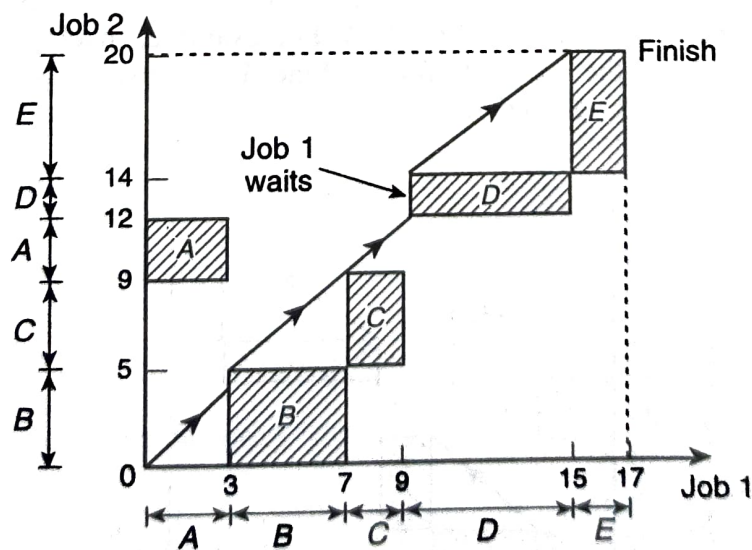

Fig. 12.3
Step 2. Mark the processing times for jobs 1 and 2 on X-axis and Y-axis respectively according to the given order of machines as shown in Fig. 12.3 :
For example, machine A takes 3 hours for job 1 and 3 hours for job 2. Construct the rectangle for machine A as shown in Fig. 12.3. Similarly construct other rectangles for machine B, C, D and E.
Step 5. An *optimal path* is one that minimizes the idle time for both the jobs. Thus, we must choose the path on which diagonal movement is maximum as shown in Fig. 12.3.